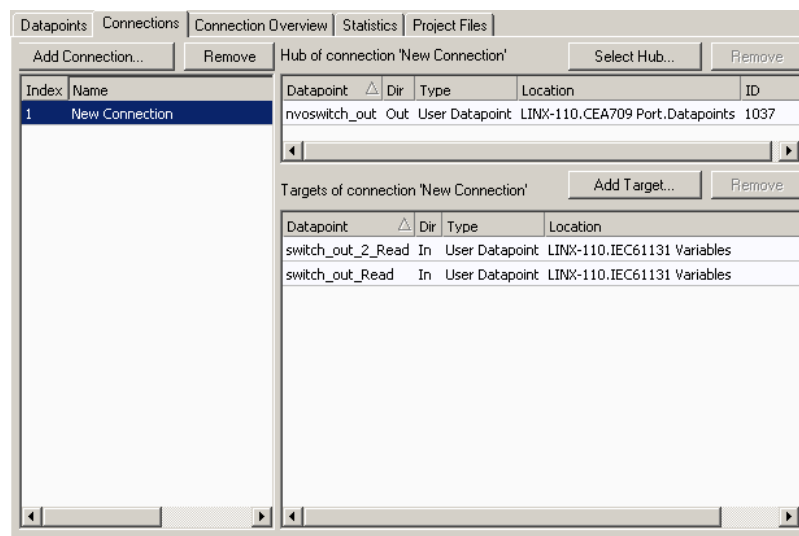

Figure 137: Connection dialog with hub and target points.
- Now the connection dialog contains a hub and two target data point as shown in Figure 137.